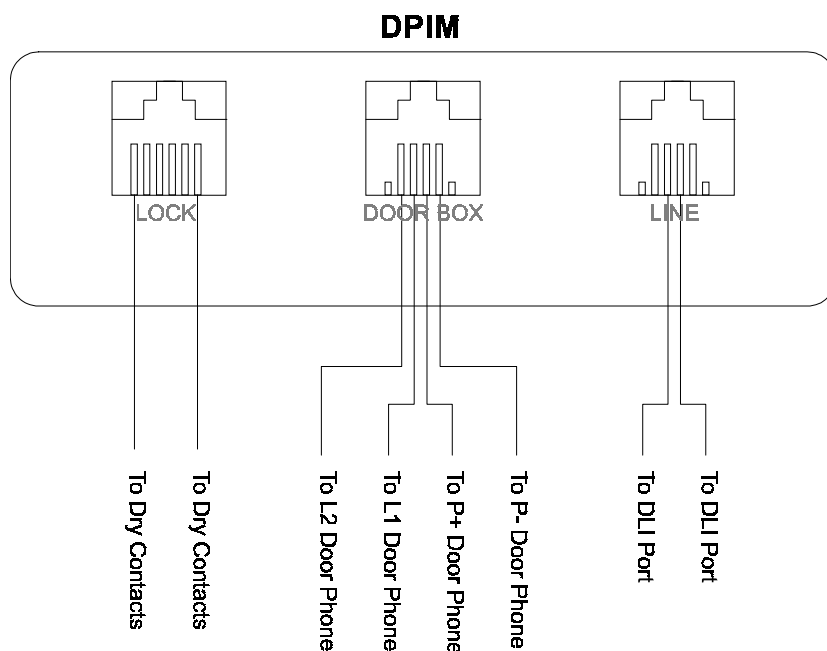

Figure 6-1 Installing the DPIM and Door Unlock
3. Carefully insert the new EPROMs, commencing with the one closest the Power Supply (ODD2) into the designated sockets. The new EPROMs are labelled with EV-1, OD-1, EV-2 and OD-2. The EPROM positions are marked on the MEM card adjacent to each IC socket. Refer to Figure 6-1.